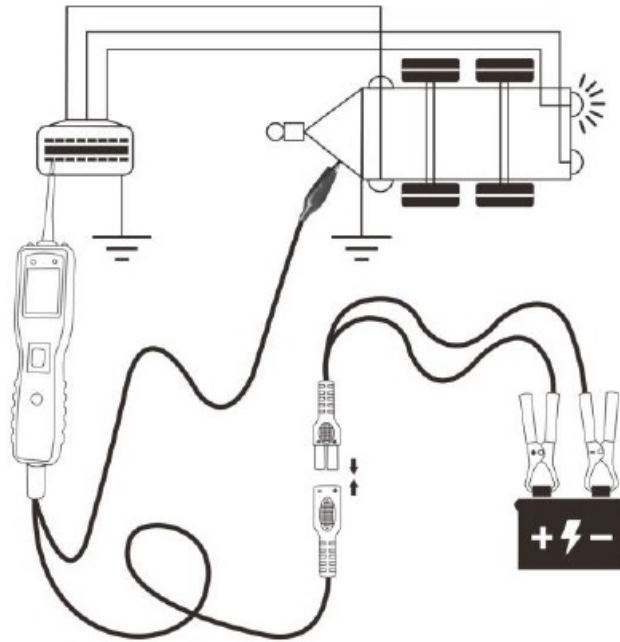

Figure 13
- While the tool in DC Voltage mode, clip the auxiliary ground lead to the trailer ground , probe the contacts at the jack and then apply voltage to the probe tip. This lets you check the function and orientation of the connector and trailer lights. (Figure 13)